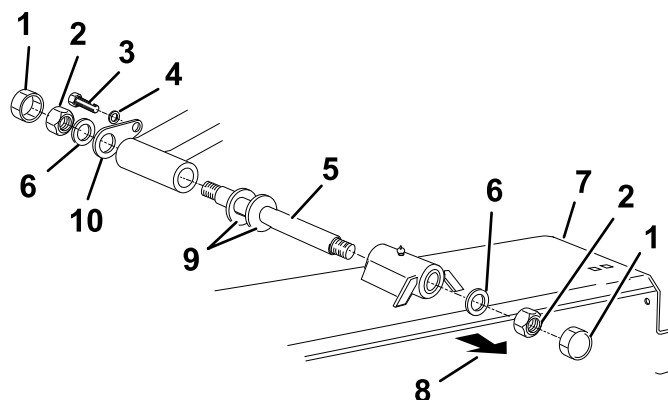

Figure 7
9. Secure each cutting unit to the mower in the correct position using the pivot pin, 2 locknuts (M24), 2 washers (M24), 2 nut caps, a pin retainer, 2 Belleville washers (where applicable), a setscrew (M12 x 30 mm), and a spring washer (Figure 7).